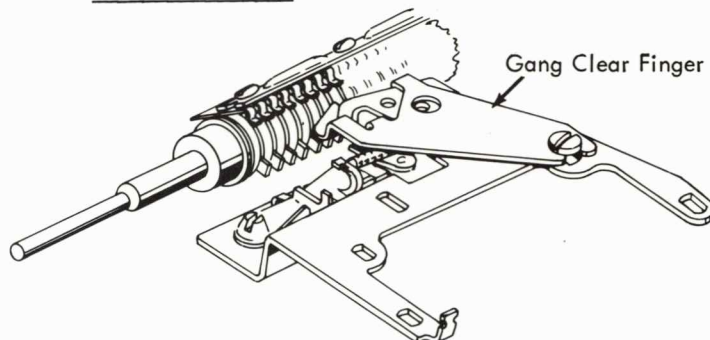

FIGURE 159. Gang Clear Finger
5. Gang Clear Finger (Ref Fig. 159)